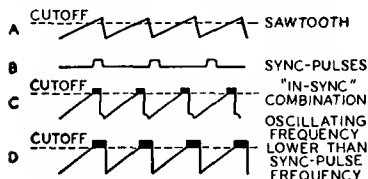

Fig. 102—Sawtooth and sync pulses in synchroguide circuit.
V_1 . The waveforms shown in Fig. 102 illustrate the sawtooth and sync pulses (A and B) and their proper "in-sync" combination (C).
For example, waveform D in Fig. 102 illustrates a condition in which the sawtooth voltage is advanced in phase with respect to the sync pulses. The widening of the pulse which occurs at the corner of the sawtooth waveform allows the control tube to conduct more current and, consequently, allows the capacitor C_1 to charge to a higher voltage. This increased reference voltage also appears in the grid circuit of V_2 and makes the grid more positive. The increased grid voltage then speeds up the frequency of oscillations until proper synchronization results.